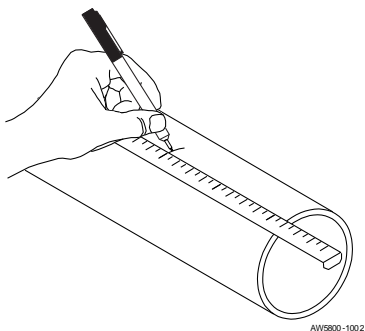

Figure 4
- E. Re-mark the center of the trunnion tube. See Figure 4.